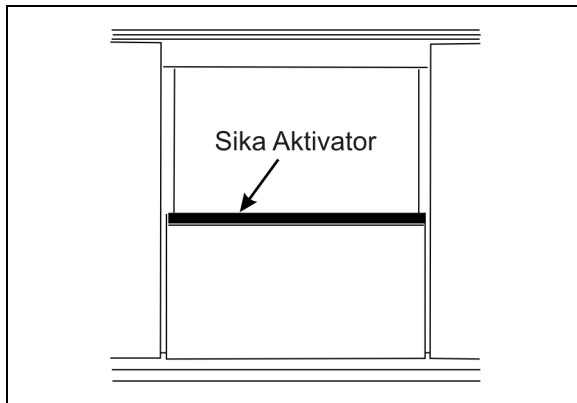

FIGURE 72 : SLIDING WINDOW - SIKa AKTIVATOR
3. Apply Sika Aktivator on the structure as per FIGURE 72.